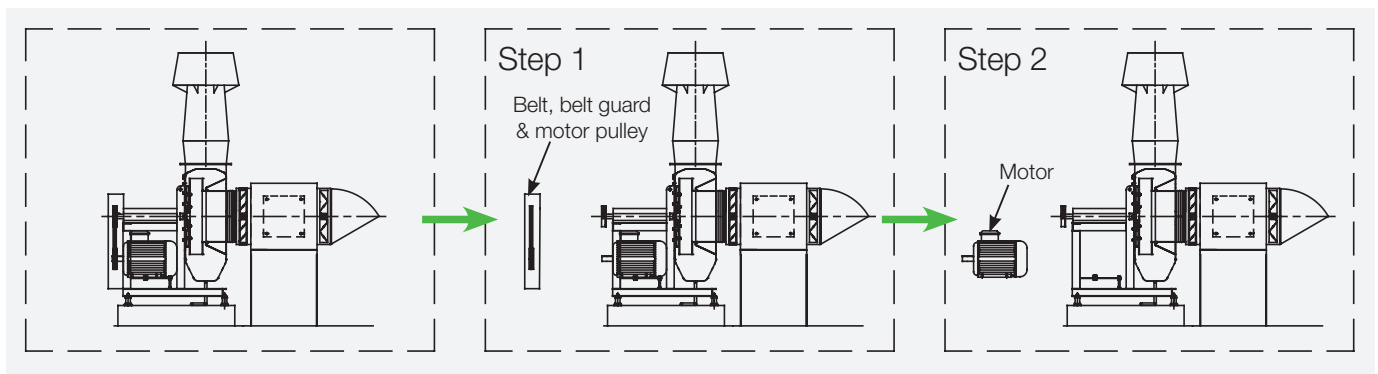

Figure 9) Removing Impeller from the shaft
- Step 2 n) Unbolt to remove the motor by lifting the motor out of the fan stand (refer to Figure 9)